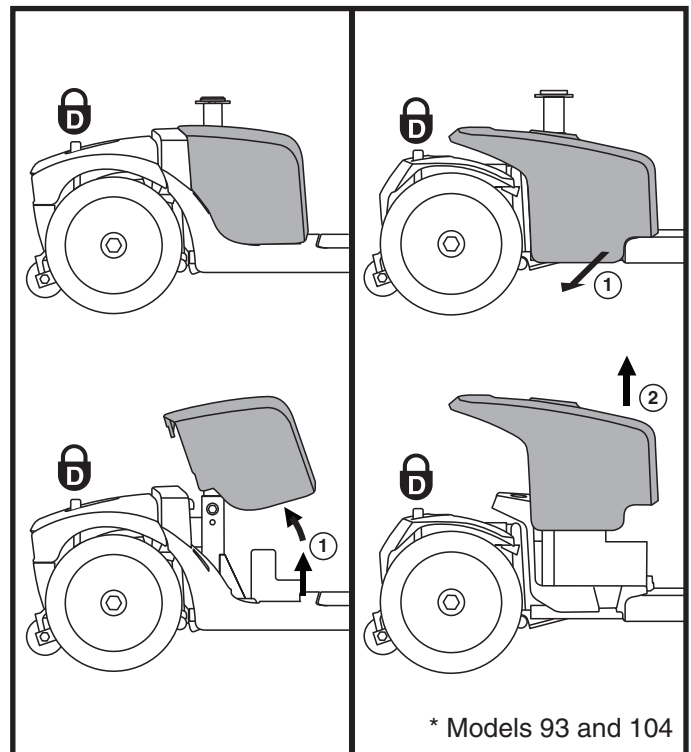

Figure 13. Battery Shroud Removal/Installation
1. Remove the seat and battery shroud. **See figure 13.**